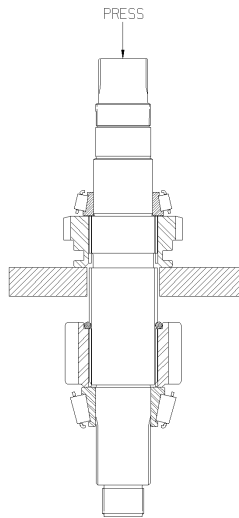

Fig. 26
2. Press the remaining direct-drive gear support bearing off of the shaft as shown. See Fig. 26.